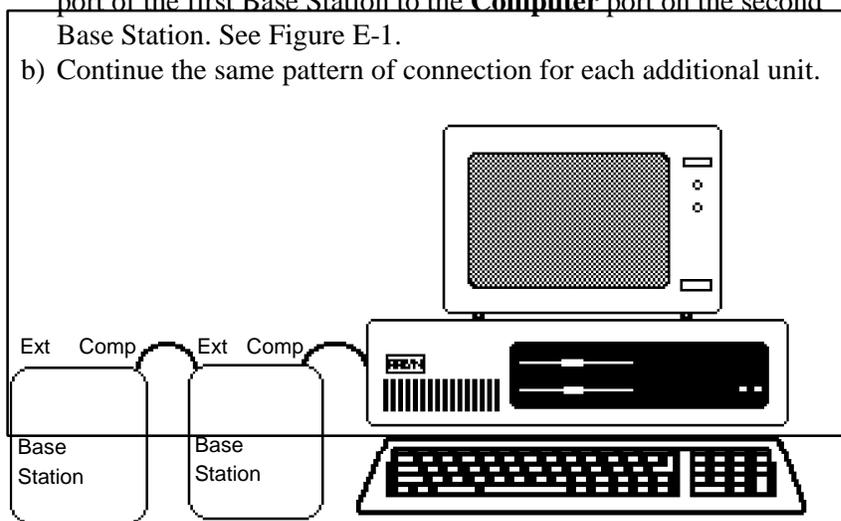

Figure E-1 Base Stations in Series
- a) Use an interconnect cable (TWC-006) to connect the **Extension** port of the first Base Station to the **Computer** port on the second Base Station. See Figure E-1.